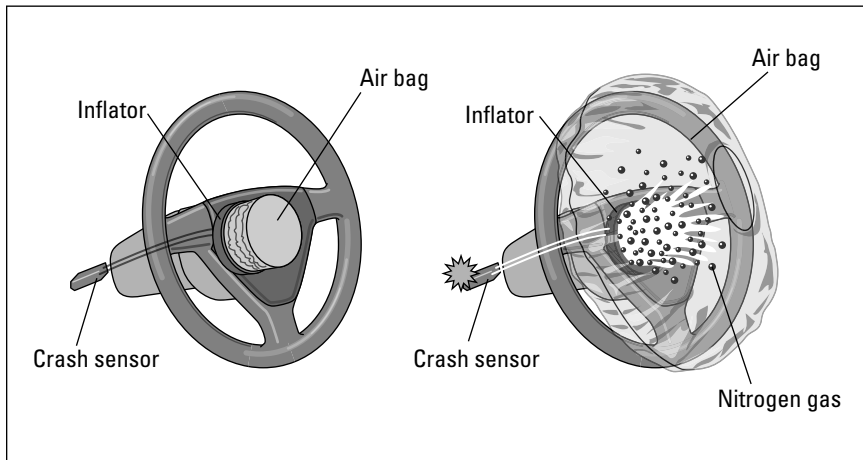

Figure 19-2: How air bags work.
- ✔ **The air bag inflator** receives a signal from the ECU if the vehicle has crashed severely enough to warrant air bag protection. This signal starts a chemical reaction that produces the gas that inflates the air bag (see Figure 19-2). In frontal collisions, all this happens in less than $\frac{1}{20}$ of a second, and side air bags inflate even faster because there's usually less space between the potential victim and the site of impact.